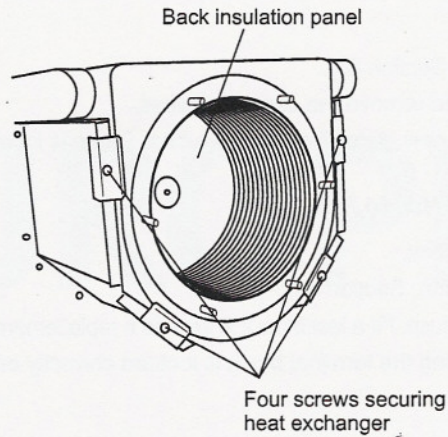

Fig. 29
8.16 PRIMARY HEAT EXCHANGER - See Fig. 29
Back insulation - see Fig. 29